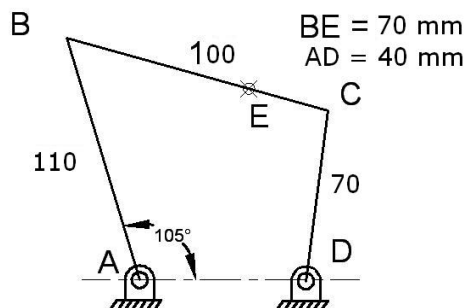

Fig. 1
- Q.3 (a) For the mechanism shown in Fig. 1, draw velocity diagram and find out absolute velocity of point E and rubbing velocities at all the joint for equal radii of 25 mm. Take angular velocity of crank AB equal to 30 rad / s in clockwise direction. 07
- (b) For the mechanism shown in Fig. 1 (Q-3, a), draw acceleration diagram and find out the absolute acceleration of point B and E. 07